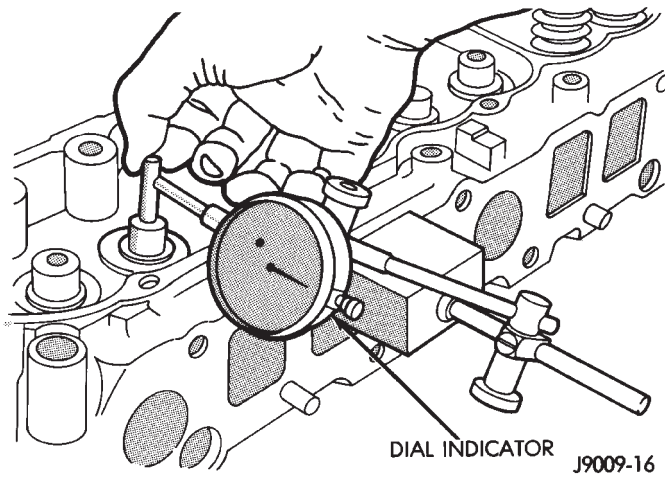

Fig. 9 Measurement of Lateral Movement of Valve Stem
(1) Use a dial indicator to measure the lateral movement of the valve stem (stem-to-guide clearance). This must be done with the valve installed in its guide and just off the valve seat (Fig. 9).
(2) Correct clearance is 0.025-0.0762 mm (0.001-0.003 inch). If indicated movement exceeds the specification ream the valve guide to accommodate an oversize valve stem.